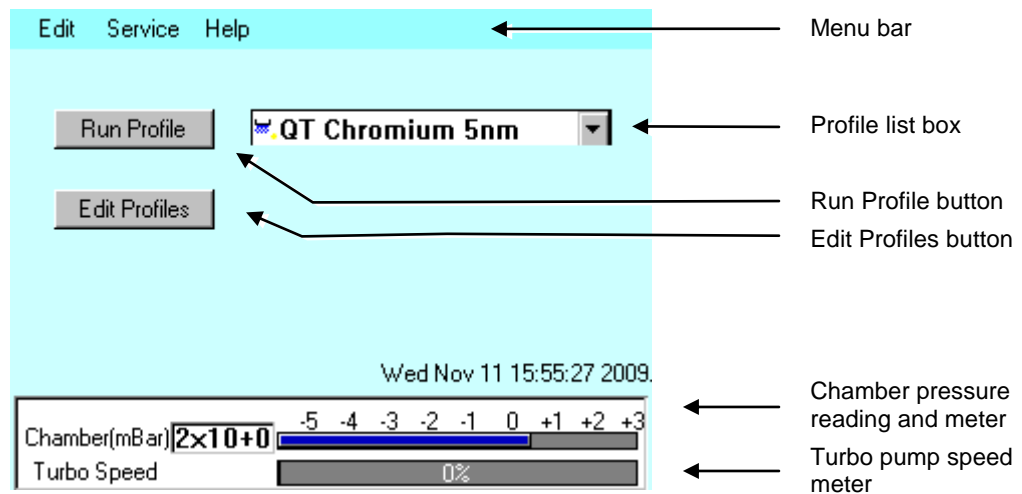
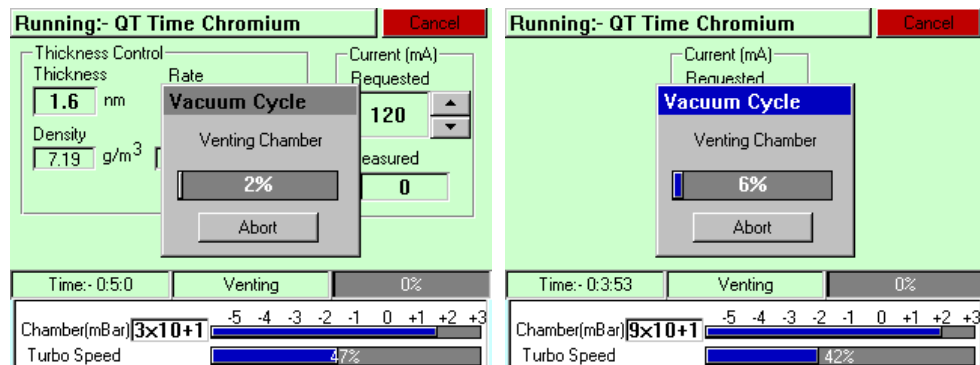

Figure 3-1. Standby screen
Figure 3-4. Venting the chamber: with FTM installed (left) and without FTM (right).
3. Once the instrument hardware and software has initialised, the standby screen is displayed (see **Figure 3-1**).
7. At the completion of the run, the Q150T begins to vent the chamber (see **Figure 3-4**). If you want to record thickness control or current information, make a note of it now. When the chamber has been vented, the display reverts to the standby screen (see **Figure 3-1**).